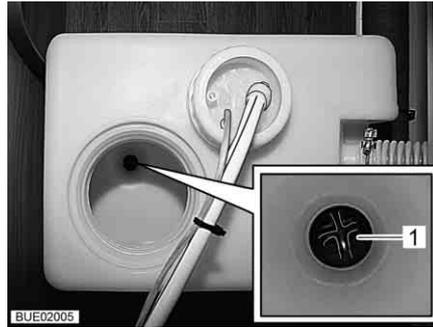

Fig. 189 Water tank (25 l)
- Using a cross-head screwdriver, open the lock (Fig. 189,1) at the bottom of the tank.